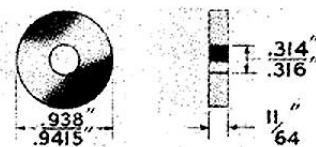

Fig. 5—Special Adjusting Bushing
3. Remove the piston and yoke clevis pin. Push the piston rod into the cylinder far enough to disconnect the yoke and valve from the reactionary levers. Install the special adjusting bushing and replace the clevis pin. (See Fig. 5 for details of adjusting bushing.)